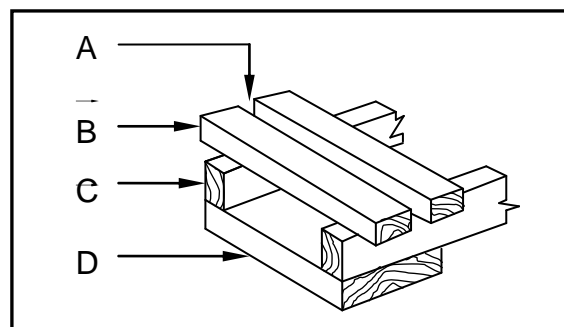

FIGURE 5.3
- 5.3 FIGURE 5.3 below is a sketch of a part of a centre for a flat arch. Identify **A** to **D**. Write only the name next to the letter (A–D) in the ANSWER BOOK.